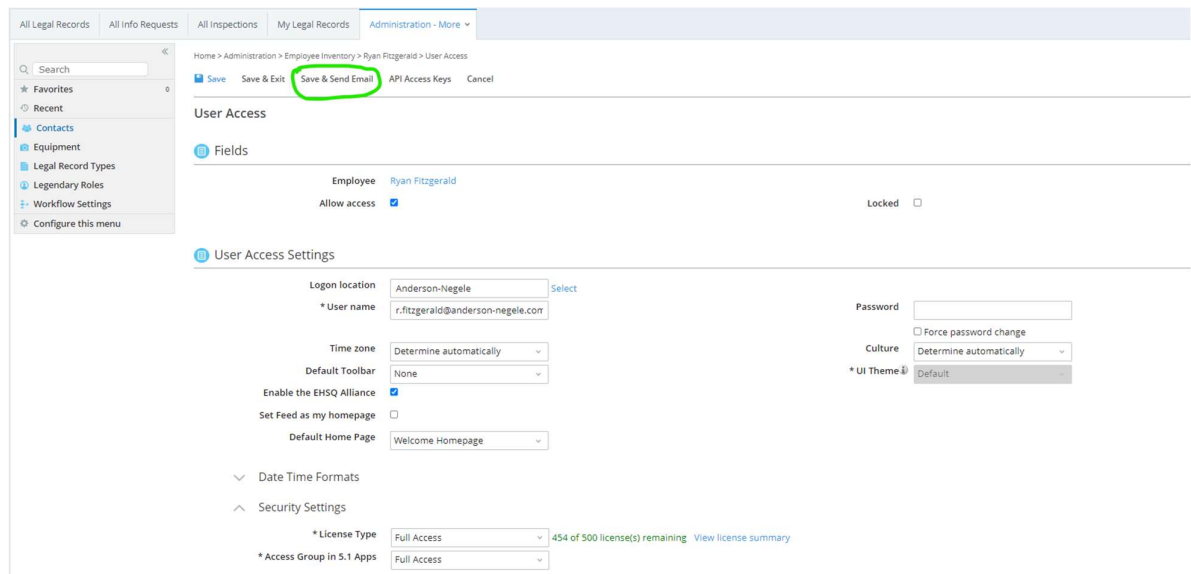

Figure 31: User Configuration
5. Fill in the User Access Settings (See Figure 31)
6. Select the User Security Settings (See Figure 31 below)